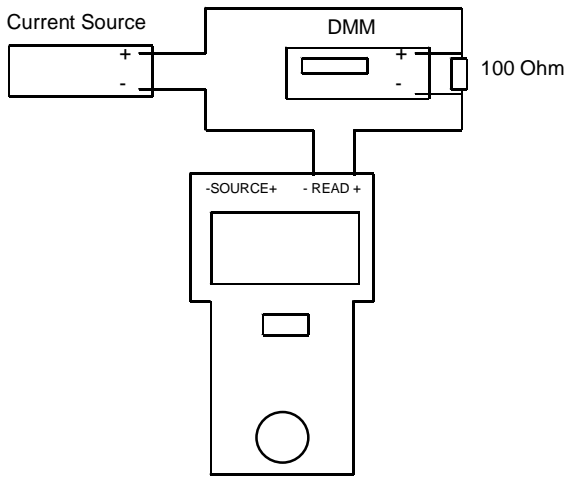

FIGURE 5
- 1) Connect the Read leads to a current source in series with a 100 Ohm resistor. Monitor the current by placing a DVM across the 100 Ohm resistor (See Figure 5).